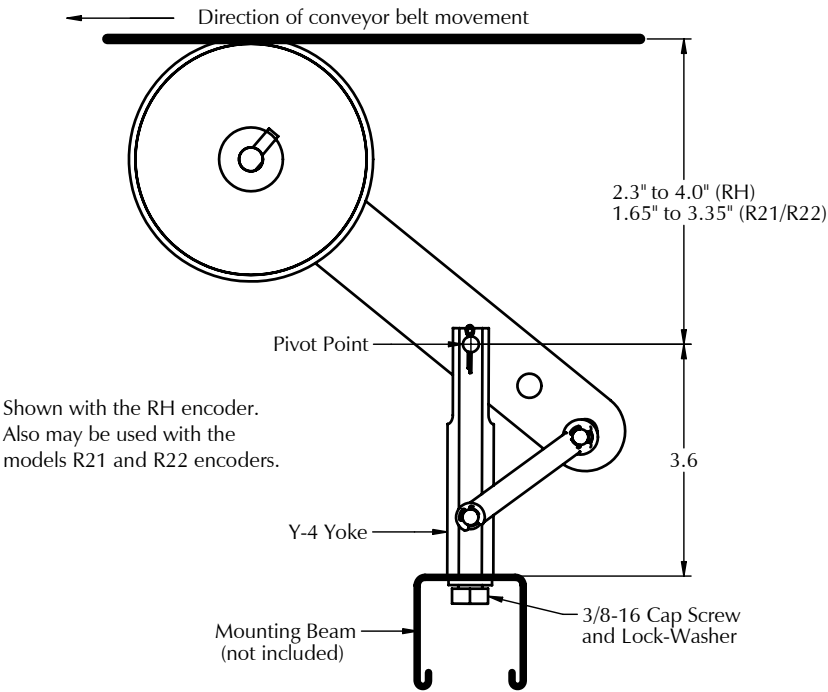

Figure 1: MB-UB4 Assembly (shown with RH wheeled encoder)
The MB-UB4 underbelt mounting assembly facilitates installation of the model RH, R21 or R22 wheeled encoders under the conveyer belt (or roller) as shown in figure 1. The Y-4 yoke provides a pivot point that allows the up/down and some sideways movement of the encoder with the conveyor belt while the springs assure constant contact of the wheels to the conveyor. The pivot point and Y-4 yoke are centered on the encoder to automatically optimize alignment with the conveyor. Nylon washers are included to accommodate the thinner handle on the R21 and R22 wheeled encoders.
2. Bolt the Y-4 yoke to the mounting beam (not supplied) using the 3/8-16 hex cap screw and lock washer supplied. The Y-4 should be perpendicular to the conveyor belt with the pivot point below the belt as shown in figure 1, and positioned so it is aligned with the belt. The greatest pressure is applied when the pivot point is closest to the belt. **Caution:** If the encoder is not well aligned with the belt, premature wheel wear will result.